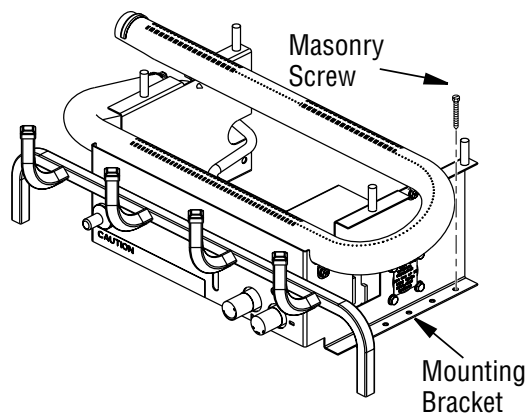

Figure 11 - Attaching Base to Fireplace Floor
7. Mark screw locations through one hole on each side of the mounting bracket (see **Figure 11**). If installing in a brick-bottom fireplace, mark screw locations in mortar joint of bricks.